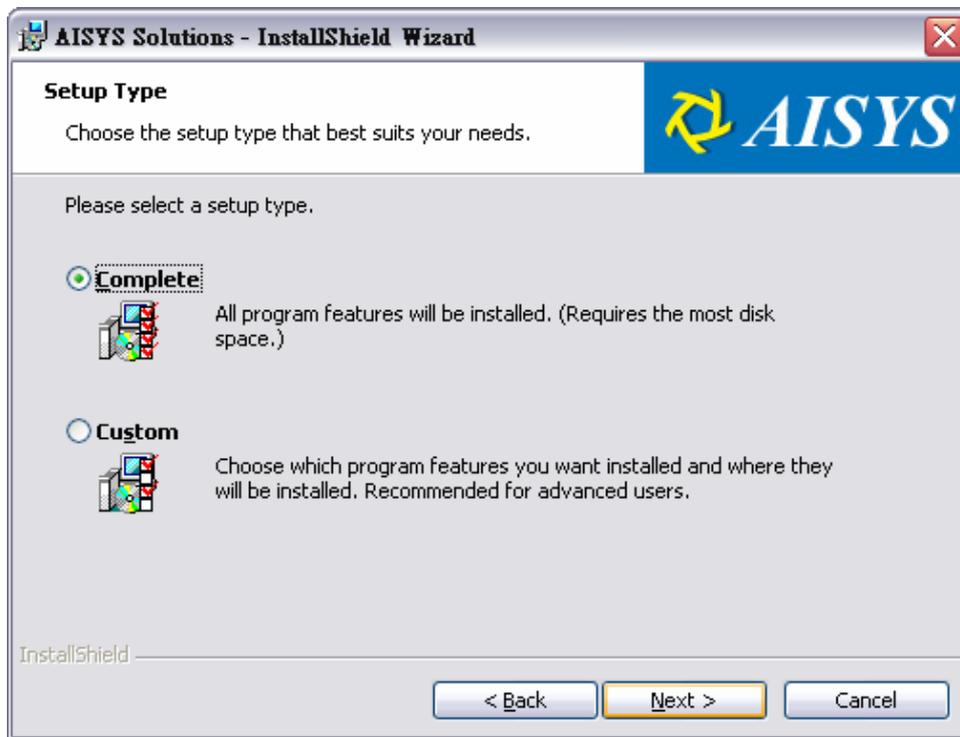

Figure 4.
4. Choose the setup type and press the button “Next” to continue the procedures as shown in Figure 4.